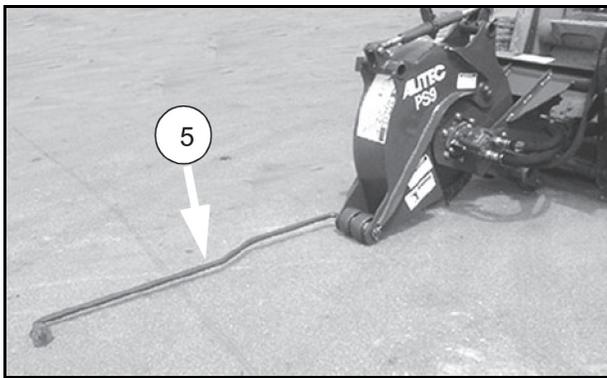

Figure 8.
3. Deploy the guide arm (5) as shown in Figure 8.